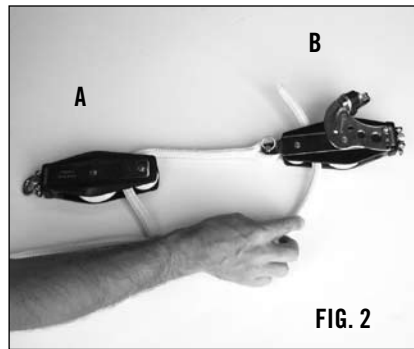

FIG. 2
2. (FIG. 2) Thread the end of the line through small sheave on block A, followed by block B.